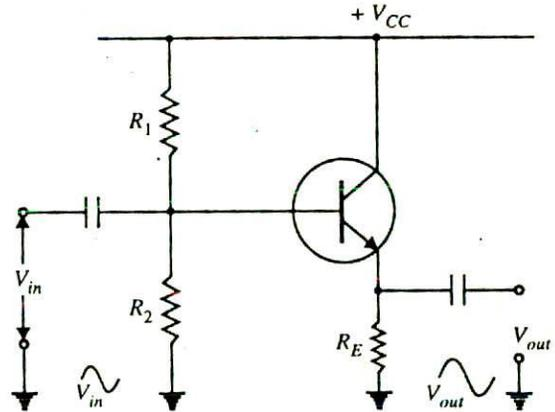

Fig. 15.12
**Circuit details.** Fig. 15.12 shows the circuit of an emitter follower. As you can see, it differs from the circuitry of a conventional CE amplifier by the absence of collector load and emitter by-pass capacitor. The emitter resistance  $R_E$  itself acts as the load and a.c. output voltage ( $V_{out}$ ) is taken across  $R_E$ . The biasing is generally provided by voltage-divider method or by base resistor method. The following points are worth noting about the emitter follower :
The d.c. analysis of an emitter follower is made in the same way as the voltage divider bias circuit of a CE amplifier. Thus referring to Fig. 15.12 above, we have,